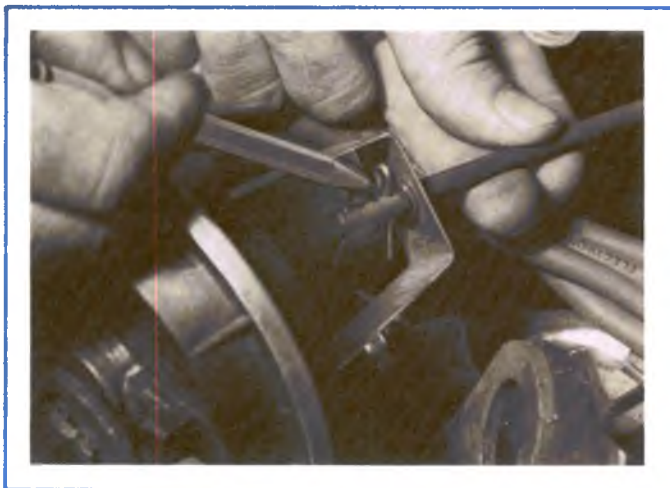
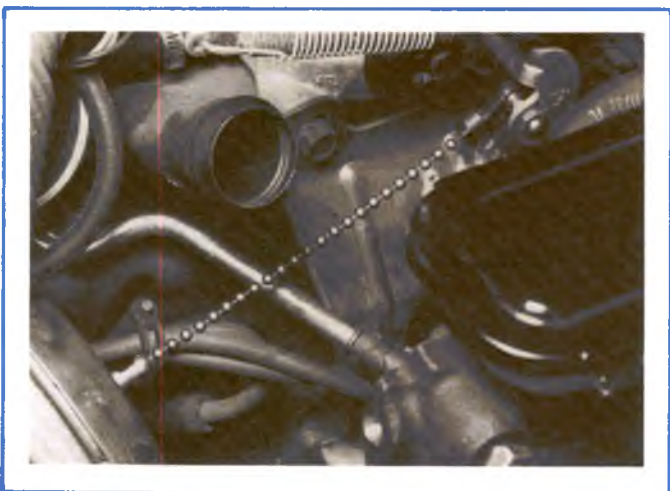
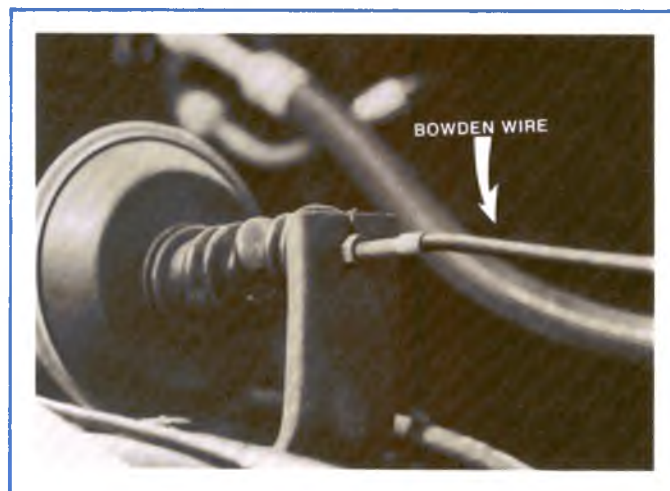

Figure 1-23a, Servo Rod (linkage).
Figure 1-23b, Bead Chain.
Figure 1-23c, Bowden Wire Combination Bowden Cable Bead Chain.
Step 2 Check the servo rod (figure 1-23a), bead chain (figure 1-23b), or Bowden wire combination Bowden cable bead chain (figure 1-23c) for excess slack. This connection should have a minimum slack but not be so tight as to affect hot curb idle.